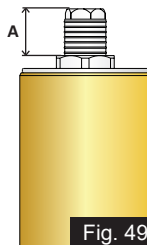

Fig. 49
- The spring preload setting is determined by the distance 'A' or number of grooves. Shorter the distance 'A' or number of grooves indicates higher preload (**ref. Fig. 49**).